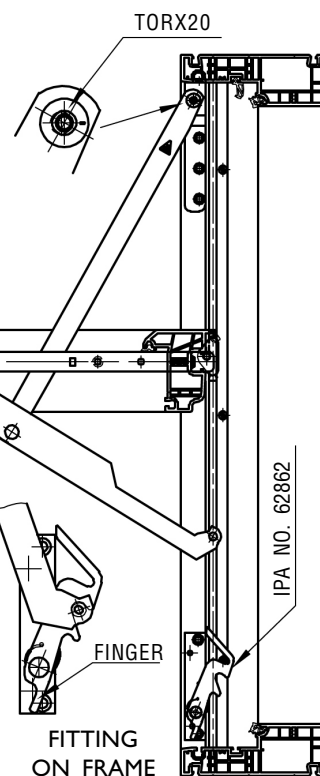

FIG. 1
1. THE SIDE FRAME IS MADE WITH A THROUGH GOING GROOVE (12 X 7 MM) PLACED 20 MM FROM FRONT EDGE OF FRAME, SEE FIG. 1 AND 2. **IMPORTANT:** GROOVE MUST BE MADE ACCORDING TO THESE SPECIFICATIONS. **EXTRA ATTENTION** MUST BE PAID TO THE GROOVES WHEN WELDING THE FRAME CORNERS TOGETHER. MAKE SURE THAT THE PROFILE AND THE GROOVE KEEP ITS FORM, AS A DEFORMED PROFILE WILL CAUSE PROBLEMS FOR THE RESTRICTORS AND FOR THE OPERATING OF THE GEAR.
5. THE SASH CAN BE ADJUSTED VERTICALLY  $\pm 0.75$  MM BY MEANS OF THE SCREW IN THE BEARING PLATE (USE TORX 20), SEE TOP OF FIG. 1. MAKE SURE THAT THE SASH IS CENTERED IN THE FRAME.
7. FIT THE **RESTRICTOR IPA NO. 62562** ON THE LEFT SIDE, SEE FIG. 1. PLEASE CHECK RESTRICTED OPENING POSITION AS WELL AS CLEANING POSITION.
8. IN CLEANING POSITION THE TOP NOTCH SHOULD ALWAYS BE USED, SEE BOTTOM OF FIG 1. BOTTOM NOTCH IS FOR RESTRICTED OPENING POSITION ONLY.